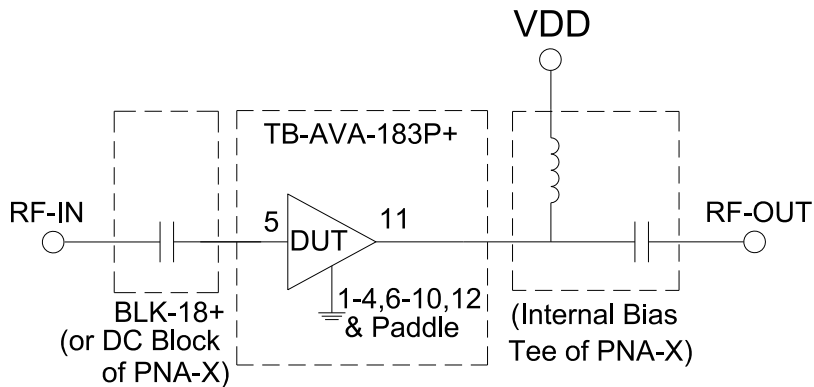

Fig 1. Characterization Test Circuit
1. Measured on Mini-Circuits Characterization test board TB-AVA-183P+. See Characterization Test Circuit (Fig. 1)